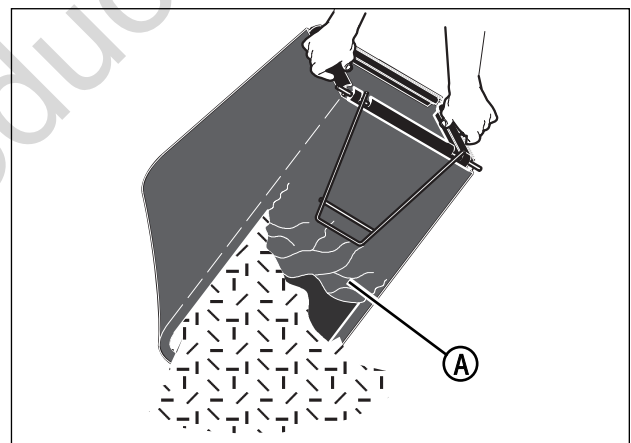

Figure 11: Emptying the grass bag
3. Open the top cover (A, Figure 11). Empty the grass from the grass bag.